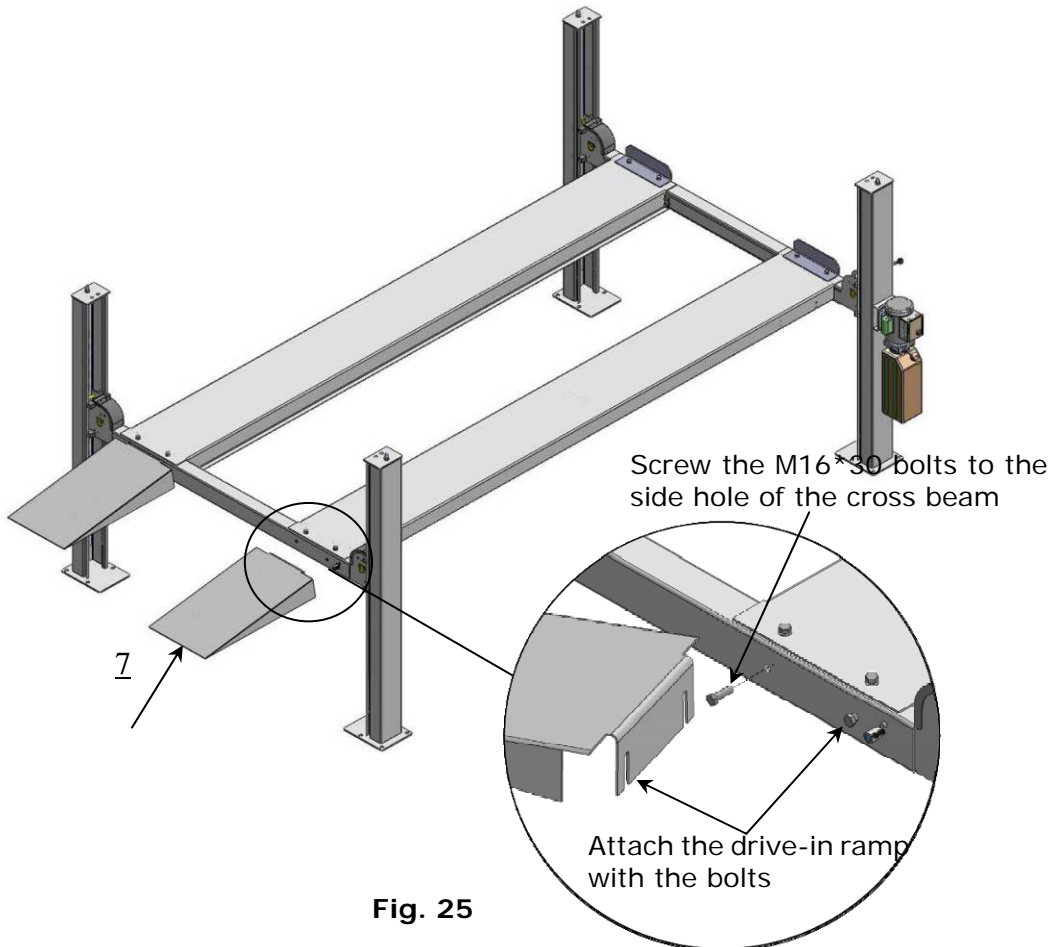

Fig. 25
M. Install drive-in ramps (See Fig. 25).